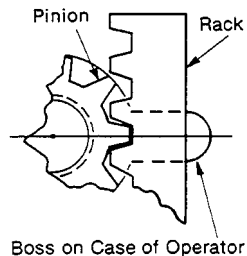
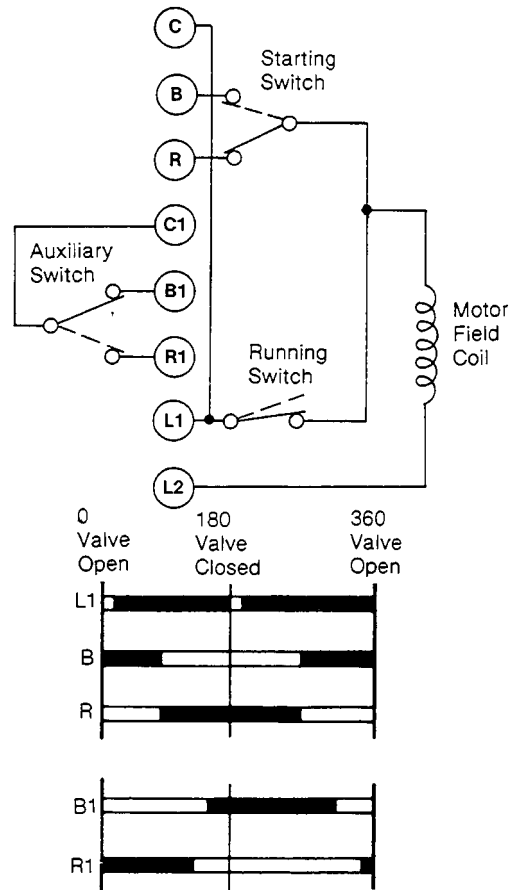

Figure-9
Figure-11 Two-Position (MC Type).
- With actuator in full clockwise (closed) position, rotate motor pinion until a pinion tooth lines up with center lines of boss (Figure-9) on actuator case; slide washer and pinion on shaft. Mark this tooth for future reference.
- Align actuator so that marked tooth of pinion engages with third tooth space from top of rack. Mount actuator to linkage with the actuator mounting screws (4). Apply "locktite", Grade CV, to screw threads.
**MC-9000** — Connect terminal C to B and actuator should run clockwise to end of travel (usually 180°). Connect terminal C to R and actuator should run from 180° to 360° (or 0). Caution: 120 volts, Figure-11.